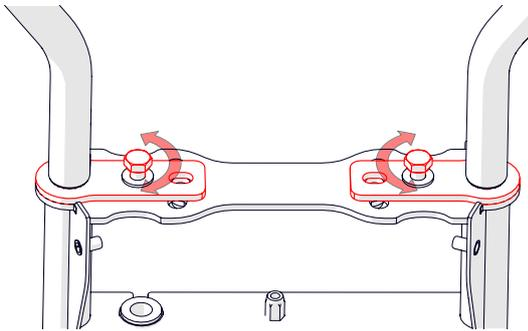

Fig.22G - Rotate handlebars as required (top console removed for clarity).
6. The handlebar can then pivot - two additional holes are available to orientate the handlebars as desired (Fig.22G). Insert the inner bolt once in position.